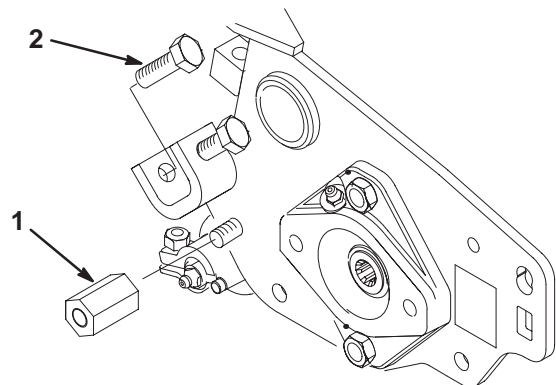

Figure 3
4. Thread the **short** (1.2" lg.) hex extension onto the carriage bolt (Fig. 3). Tighten the hex extension securely against the cutting unit side plate.